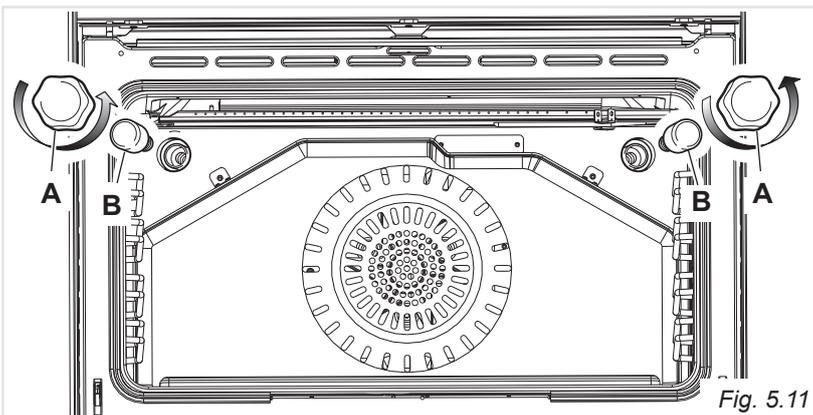

Fig. 5.11
REPLACING THE OVEN LIGHT (fig. 5.11)
- Remove the protective cover "A" (fig. 5.11).